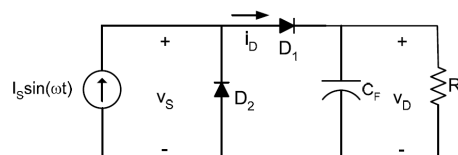

Figure 2.1 A half-wave rectifier driven from a sinusoidal current source
1. Figure 2.1 shows a half-wave rectifier driven by a sinusoidal *current* source supplying a capacitively-filtered output. (Such a configuration is sometimes found in resonant dc-dc converters.) Determine the power factor seen by the current source, assuming that the diodes act ideally and capacitance  $C_f$  is large enough such that the output voltage has small ripple ( $v_D \approx V_D$ ).